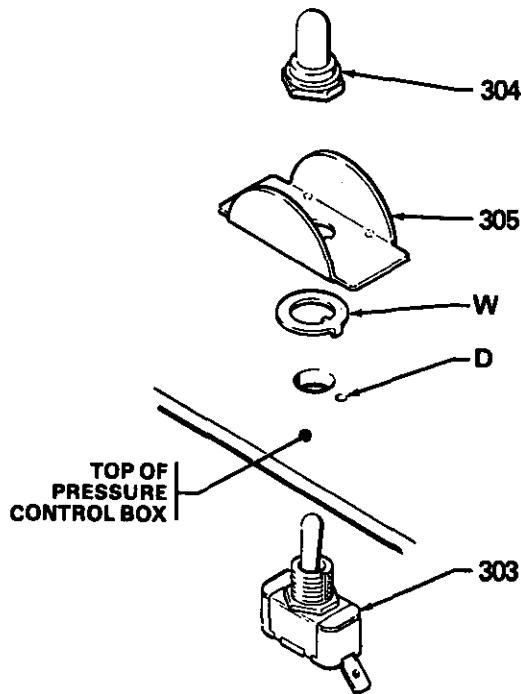

Fig. 16
4. Use a 5/8" socket wrench to loosen and remove the nut and rubber boot (304) from the top of the pressure control box. Remove the switch guard (305). See Fig 16.
6. Install the new switch so the internal tab of the anti-rotation ring (W) engages with the vertical groove in the threads of the switch, and the external tab engages with the blind hole (D) of the pressure control box. See Fig 16.
7. Install the switch guard (305), aligning the internal tab with the groove in the threads. See Fig 16.
8. Install the nut and rubber boot (304) and tighten. See Fig 16.